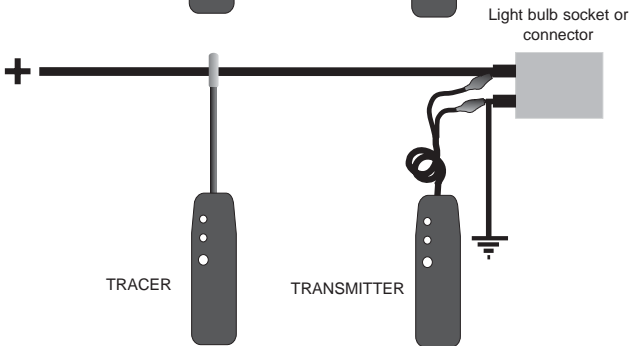

Fig. 4 - Set Up upstream tracing of open circuits or location of wires
- Tracing wires upstream (from load to supply): If more convenient, wires can also be traced the other way around, by replacing the load, with the transmitter (Fig. 4).. To do this, first remove power from the circuit, disconnect load and connect the transmitter in its place. Apply power to the circuit and follow instructions in Locating Short Circuits.